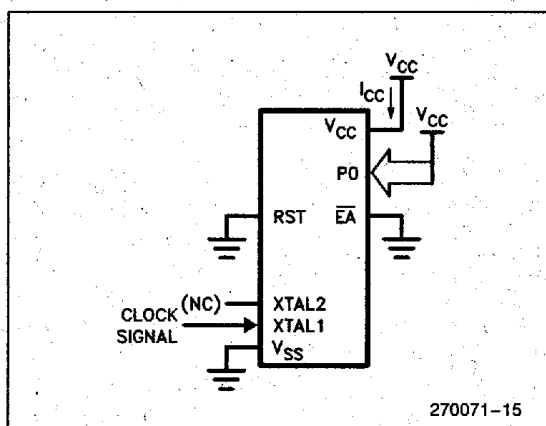

Figure 6. I_{CC} Test Condition, Idle Mode.
4. Idle I_{CC} is measured with all output pins disconnected; XTAL1 driven with TCLCH, TCHCL = 5 ns, $V_{IL} = V_{SS} + 0.5V$, $V_{IH} = V_{CC} - 0.5V$; XTAL2 N.C.; Port 0 = V_{CC} ; $\overline{EA} = RST = V_{SS}$ (see Figure 6).